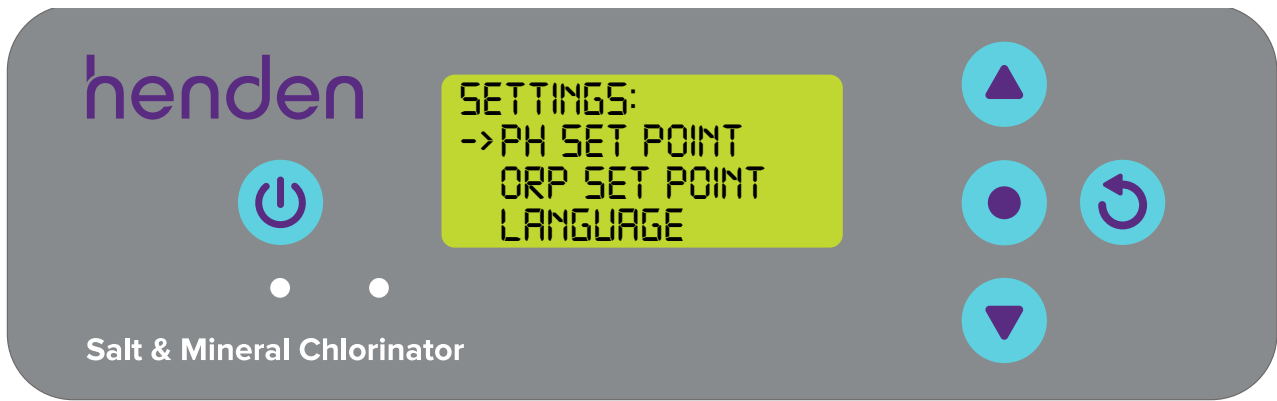

Figure 8.5
- Press the  **menu/setting select** button. This will now show the settings menu (refer figure 8.5);